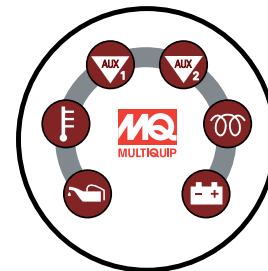

Figure 12. Indicator Lights
4. Turn the ignition key clockwise to the **ON** position. **Aux1, Aux 2**, Coolant Temp, Cruise, Pitch Mode Lights will light for 10 seconds (Figure 12) and Charge Lamp will remain on until engine starts. Coolant fan will run for 10 seconds.